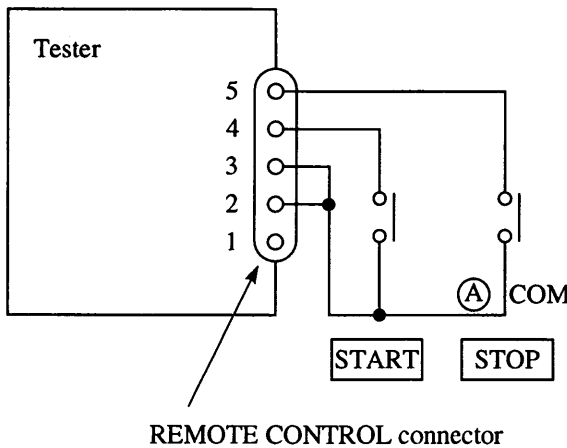
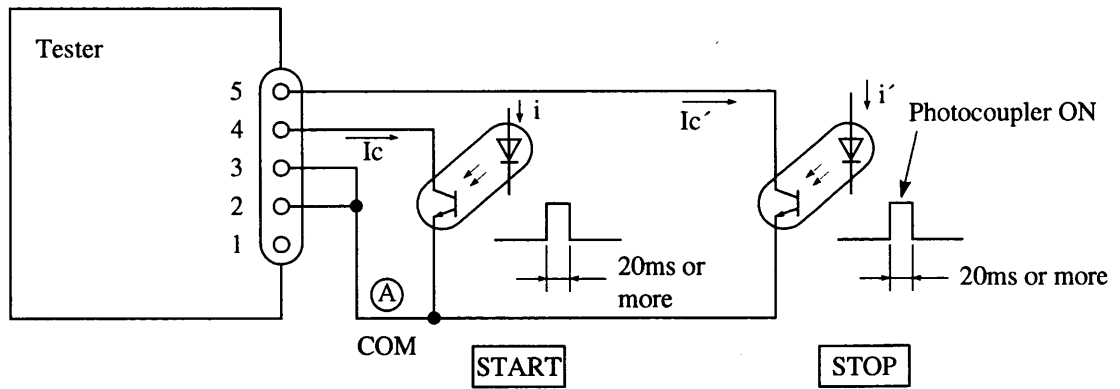
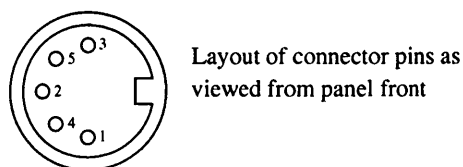

Figure 4.3
Figure 4.5
Figure 4.7
- (b) By controlling the START and STOP contacts as shown in Figure 4.3, the test voltage can be remote-controlled in the same manner as done locally on the Tester front panel.
- (d) Logic elements (transistors, FET's, or photocouplers) may be used instead of the switches in Figure 4.3. The signal status for such operation is shown in Figure 4.7. The input conditions of the Tester for such operation are as follows:
- An impedance of  $5M\Omega$  or more is needed between the common line (point (A) in Figure 4.5) of the control circuit and the power line or the ground line.
- (e) As for the elements to be connected to the Tester, the use of photocouplers as shown in Figure 4.5 or relays as shown in Figure 4.3 would be advantageous from the viewpoint of preventing erroneous operations which could be caused by noise. Although the Tester is incorporated with the various provisions to guard it against erroneous operations caused by noise generated by itself or by its related devices, it is most recommendable to take full attention to prevent noise when connecting devices to the Tester.
- (f) Note that the layout of pins of the REMOTE CONTROL connector is as per DIN Standard and is not in the due order of number progression, as shown in Figure 4.7.